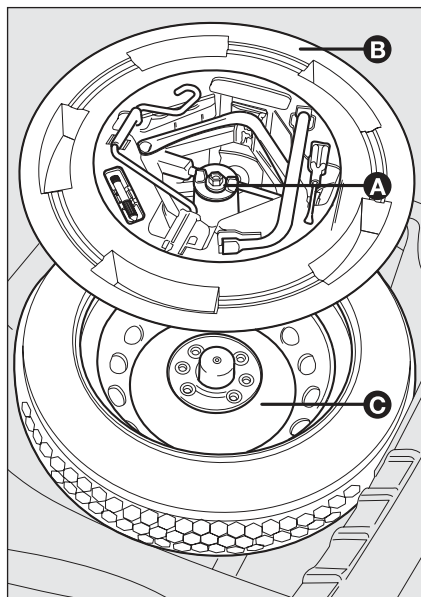

fig. 15
- ❑ Stow the spare wheel **C-fig. 15** in the space provided in the boot;
- ❑ Insert the partially open jack into the container **B-fig. 15** and force it slightly into its seat so that it does not vibrate when the car is moving;
- ❑ Stow the container complete with tools on the spare wheel and secure everything with the clamping device **A-fig. 15**;